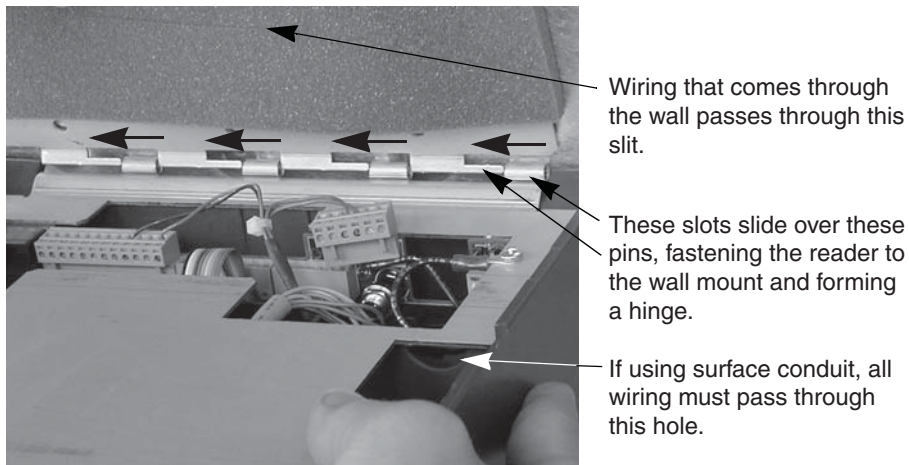

Figure 3
8. Line up the slots at the bottom of the reader's back with the four hinge pins at the bottom of the wall mount. Slide the reader to the left so the pins go in the slots. This fastens the reader to the wall and wall mount and forms a hinge. See figure 3 below.